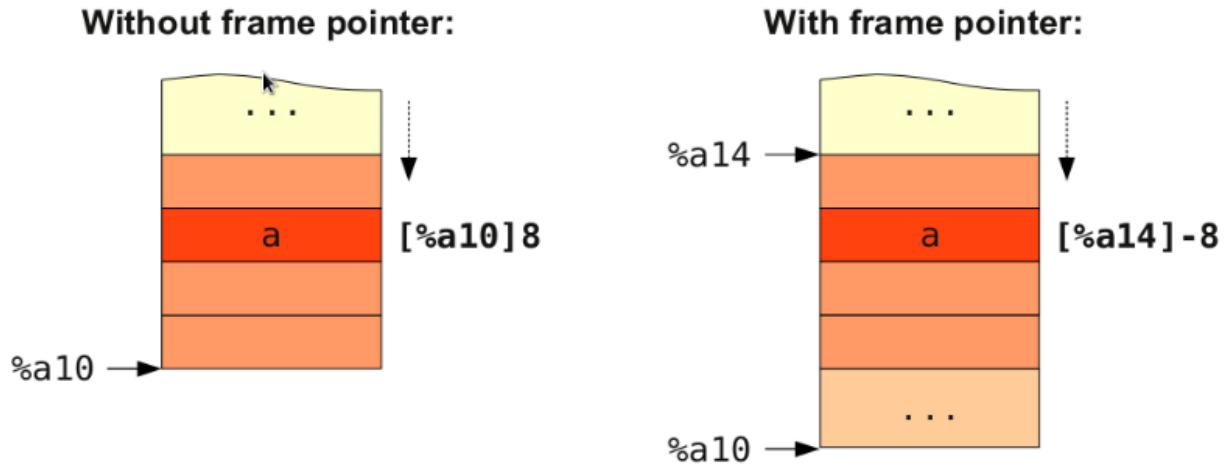

Figure 3.9: Addressing of a variable a located on the stack. If the stack frame has a variable size, slot must be addressed relative to the frame pointer
- eliminateFrameIndex() is called for each instruction that references a word of data in a stack slot. All previous passes of the code generator have been addressing stack slots through an abstract frame index and an immediate offset. The purpose of this function is to translate such a reference into a register-offset pair. Depending on whether the machine function that contains the instruction has a fixed or a variable stack frame, either the stack pointer %a10 or the frame pointer %a14 is used as the base register. The offset is computed accordingly. Figure 3.9 demonstrates for both cases how a stack slot is addressed.